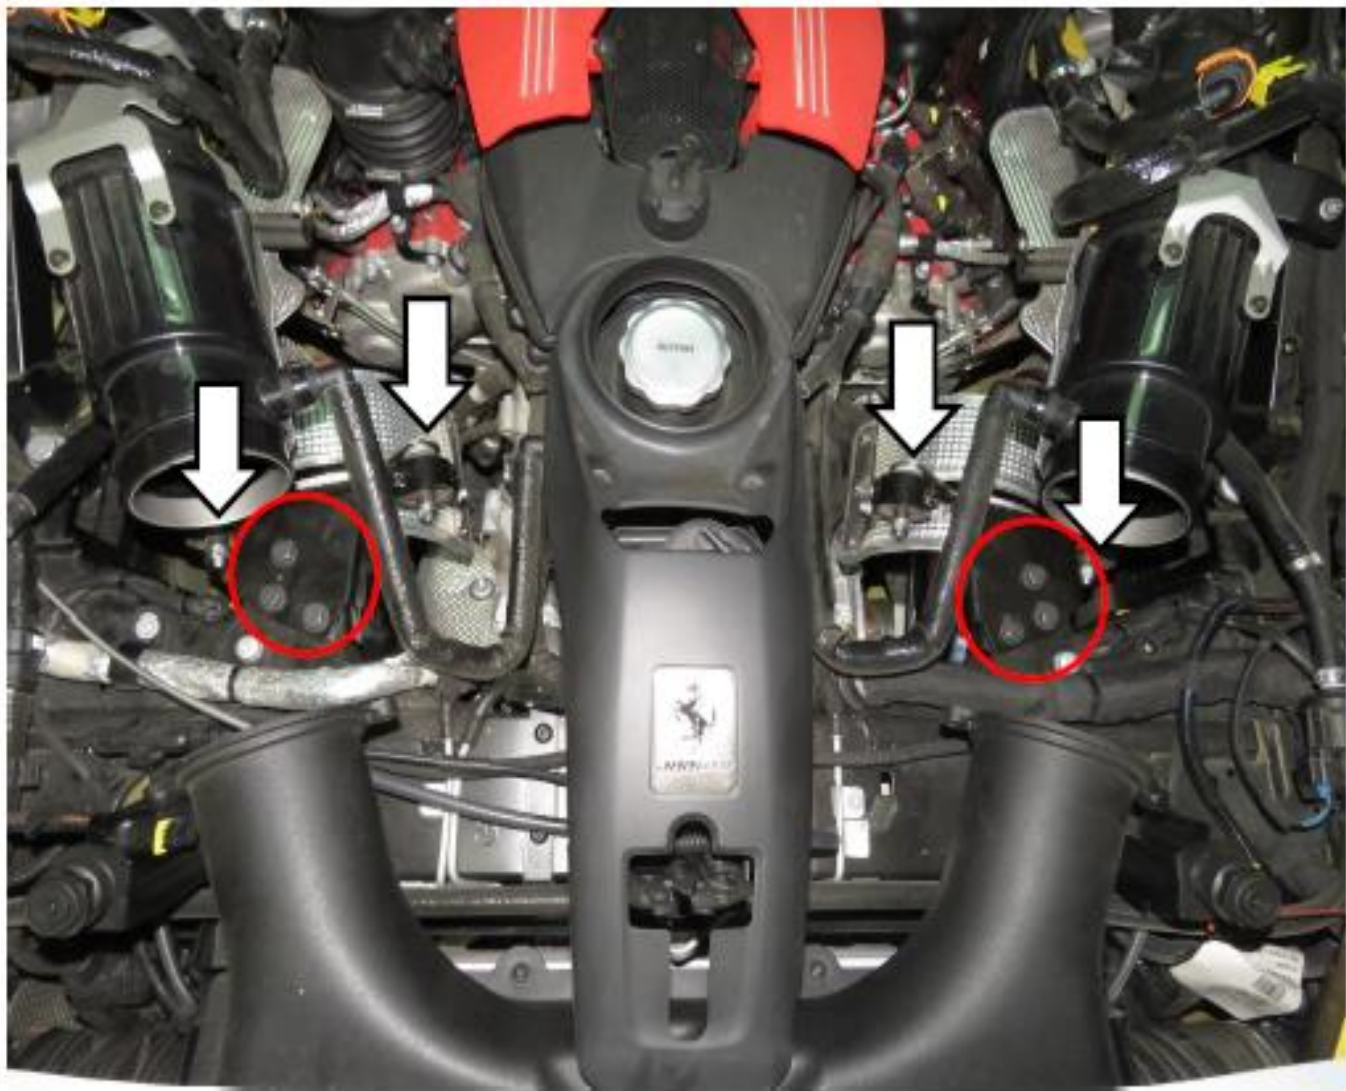

figure 13
7. Unscrew the lifting lugs, fixing brackets and heat shields on the sides of the engine (Figure 13)